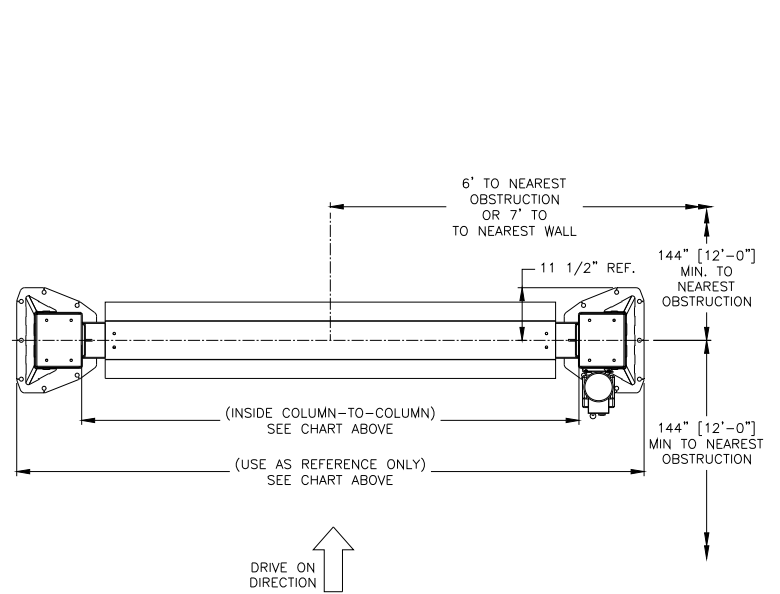

Fig 1b - Service Bay Layout
- 1) Layout the service bay according to the architect's plans or owners instructions (**see Fig 1b**). **Failure to install in this orientation can result in personal and property damage.** Be certain that the proper conditions exist, see page 3.